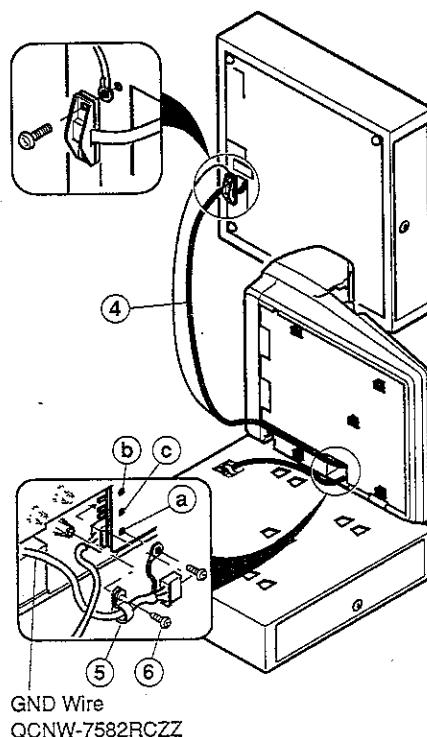

Fig. 2
- 4) Fasten the remote cable ④ to the main PWB connector (Fig.2).
- 5) The remote drawer cable must be secured using the cable clamp ⑤ and the screw ⑥ (XUPSD30P08000 : Self tap screw) comes with the product.
- 6) Put the grounding wire of the remote drawer into the screw hole in the lower cabinet and fasten it with the screw. (Use the holes ⑦ and ⑧ in the illustration. Never use the hole ⑨. If the third and fourth drawers are to be added, share the holes ⑦ and ⑧ among the drawers.)